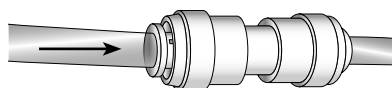

Figure 3
- Route a 1/4" Copper, Pex or equivalent tubing from the water source and connect to the water inlet fitting on the unit as shown in Figure 3.